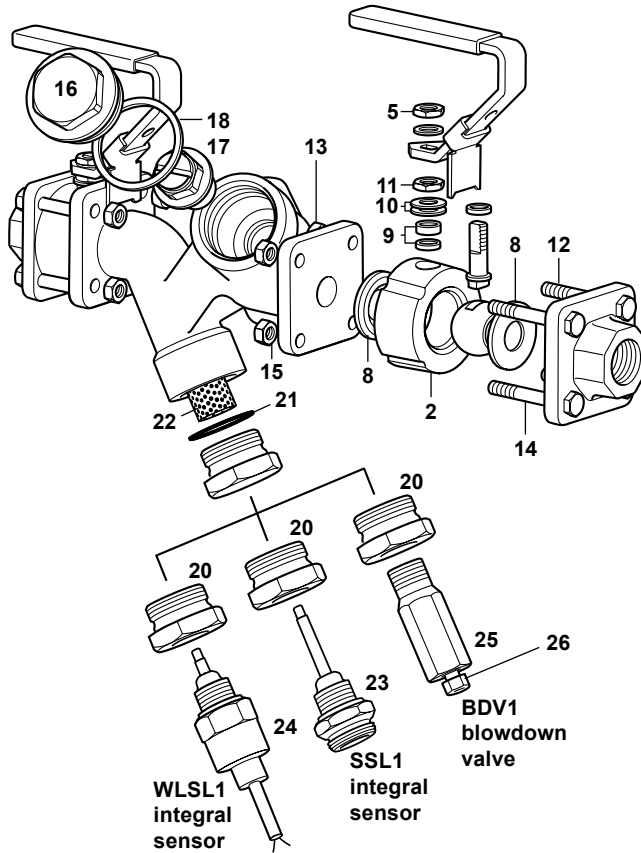

Fig. 5
5.7 How to replace the ball valve spares (reference Figure 5):